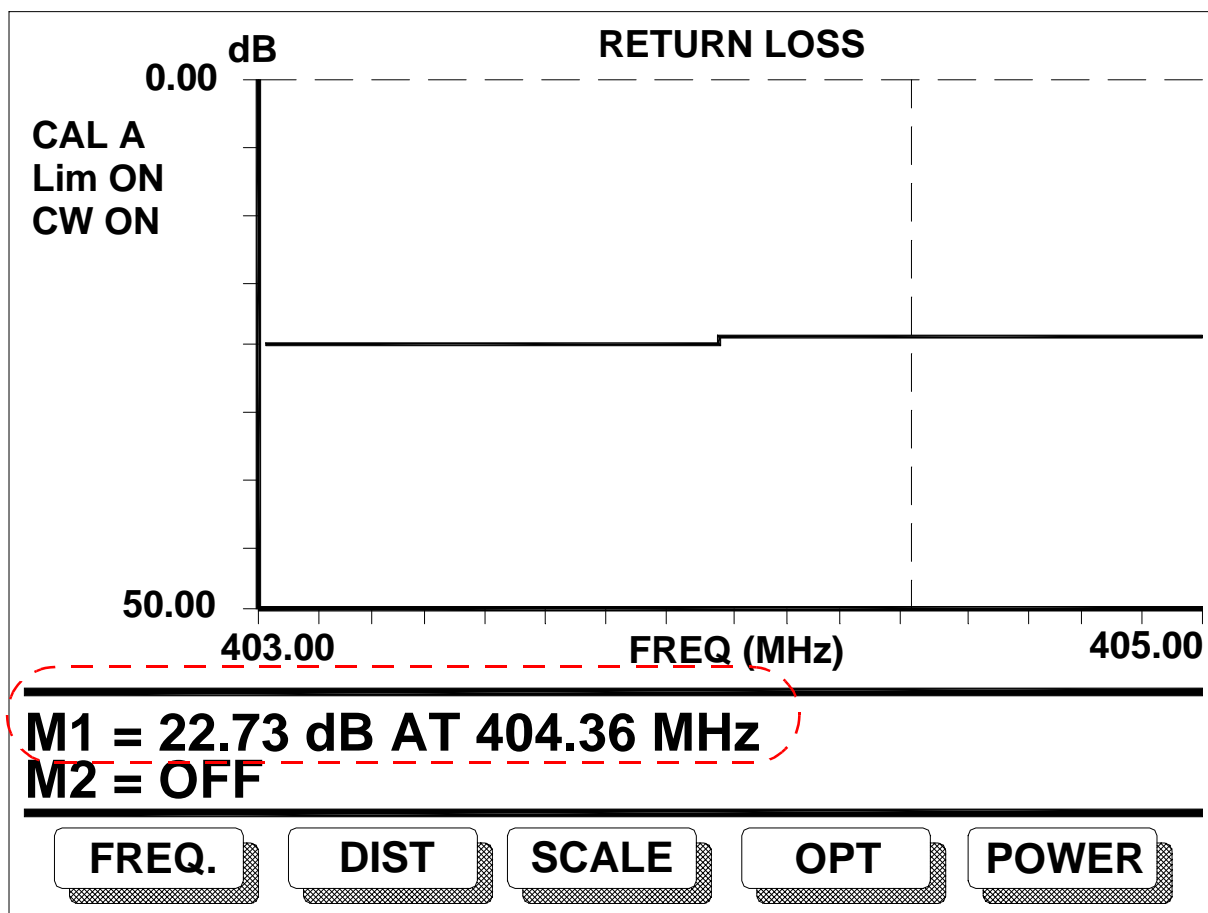

Figure 5-27 Anritsu Return Loss Display
display the return loss reading. The reading is a negative quantity, though it is displayed as positive (see Figure 5-27).
11. A good reading will be < 20db (more negative 21,22,23). A single digit display (typically 1 or less) will indicate a bad switch. See Figure 5-27.